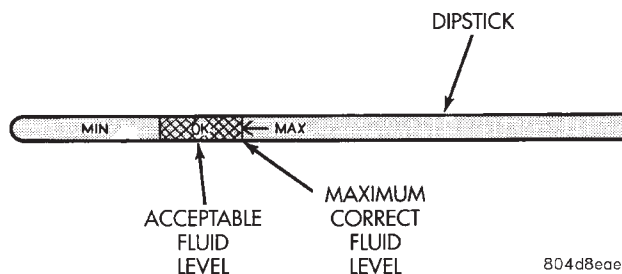

Fig. 24 Dipstick Fluid Level Marks—Typical
(1) Transmission fluid must be at normal operating temperature for accurate fluid level check. Drive vehicle if necessary to bring fluid temperature up to normal hot operating temperature of 82°C (180°F).
(2) Position vehicle on level surface.
(3) Start and run engine at curb idle speed.
(4) Apply parking brakes.
(5) Shift transmission momentarily into all gear ranges. Then shift transmission back to Neutral.
(6) Clean top of filler tube and dipstick to keep dirt from entering tube.
(7) Remove dipstick (Fig. 24) and check fluid level as follows: